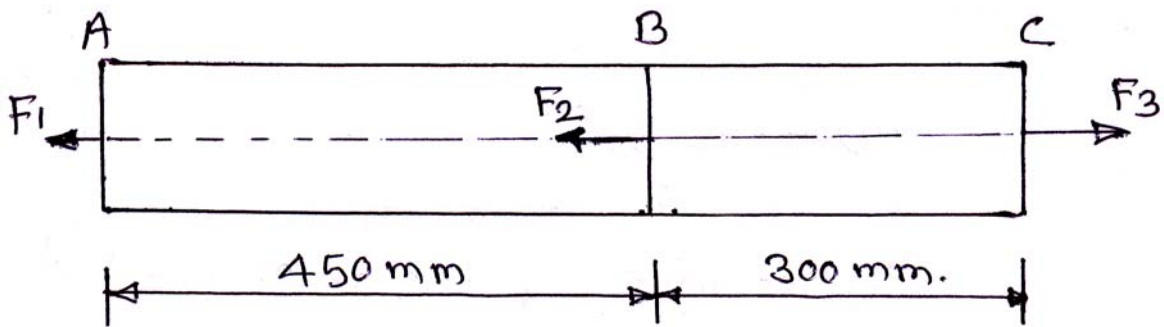

Fig. 1 (b)
b) In fig. 1 (b) rod AB has diameter 12 mm, length 450 mm and modulus of elasticity E_1 Rod BC has 12 mm diameter, length 300 mm and modulus of elasticity E_2 . F_1 , F_2 and F_3 are axial Forces. When $F_1 = 0$, $F_2 = 6$ KN, $F_3 = 6$ KN and elongation of AC is 0.2 mm.